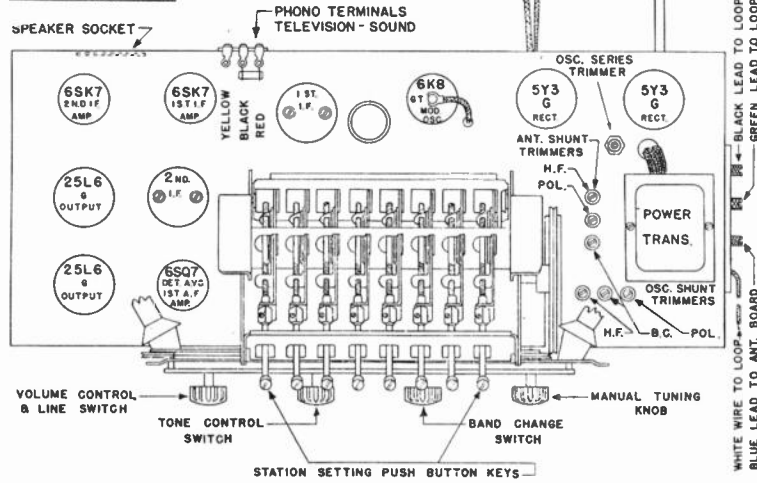

Fig. 2 -Top View Models 819 and 1019
(c) Adjust the two trimmer condensers on the second I-F assembly for maximum output (Fig. 2).
(d) Adjust the two trimmer condensers on the first I-F assembly for maximum output. (Fig. 2).
(c) For models without the loop antenna adjust B. C. oscillator shunt trimmer condenser (Fig. 2) for maximum output (gang does not have to tune through this signal). For models with a loop antenna there are two oscillator shunt trimmer condensers as will be noted in figure 2. Close the front oscillator shunt trimmer all the way, then open about 1/2 turn. Proceed to tune in with the other (rear) trimmer the 1550 kilocycle signal for maximum output.
(f) On models without the loop adjust the B. C. antenna shunt trimmer for maximum output, see (Fig. 2). On models with a loop a B. C. antenna shunt trimmer is located on top the loop antenna; adjust for maximum output.
(1) Set signal generator to 600 kilocycles.
(2) Tune in generator signal on receiver.
(3) While rocking tuning condenser back and forth adjust oscillator series trimmer (Fig. 2) for maximum output. Then repeat (d) and (f) for more accurate alignment.
(i) Adjust "Pol." oscillator shunt trimmer condenser (Fig. 2) for maximum output.
(m) With gang open and band switch turned to the right (H. F.), adjust the H. F. (high frequency) oscillator trimmer (Fig. 2) for maximum output. Care should be taken to align the oscillator on the fundamental and not the image frequency. When correctly aligned the image should be heard approximately 17.4 on the dial but will be comparatively weak compared to the fundamental signal.